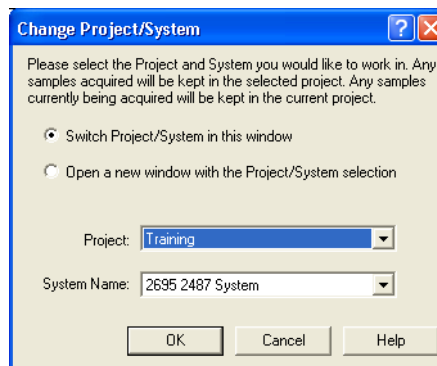

Figure 4-36 Change Project/System Dialog Box
1. Select **Manage > Change Project/System**. The Change Project/System dialog box appears (Figure 4-36). From the Project list, select **Defaults**.